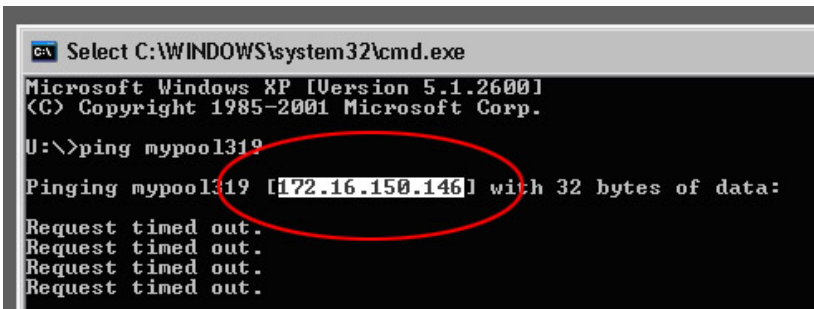

Figure 7
- 4) After pressing ENTER, the system will reveal the IP address associated with the ACHN's URL. This IP address should be found on the line directly below your request (highlighted in white in Figure 7).